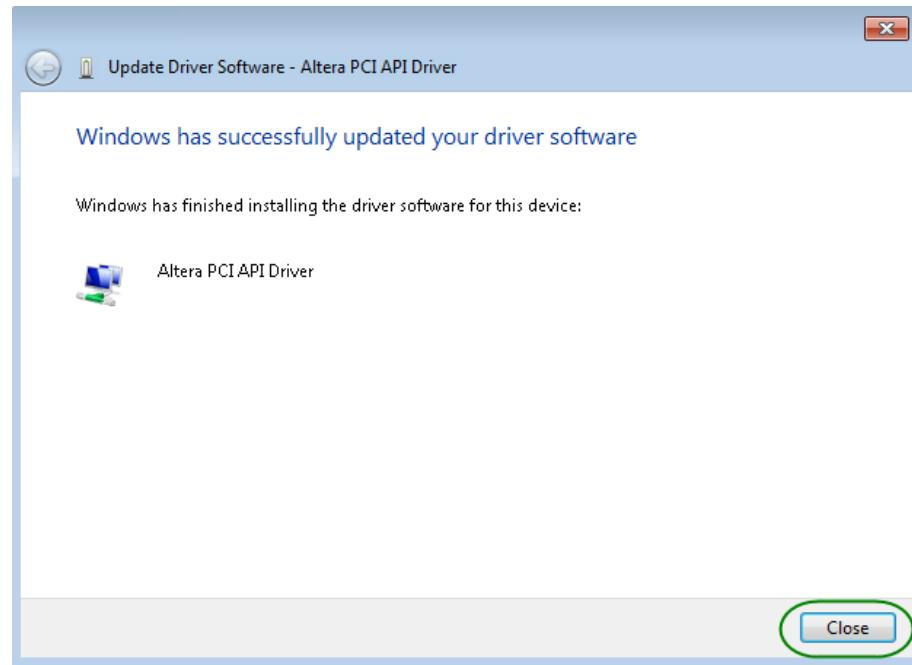

Figure 7-8 Click Close when the installation of Altera PCI API Driver is complete
Figure 7-8 shows the software stack for the PCI Express application software on 64-bit Windows. The PCI Express driver incorporated in the DLL library is called TERASIC_PCIE_AVMM.dll. Users can develop their applications based on this DLL. The altera_pcie_win_driver.sys kernel driver is provided by Altera.
11. When the driver is installed successfully, the successfully dialog will appears, as shown in Figure 7-8. Click the **Close** button.